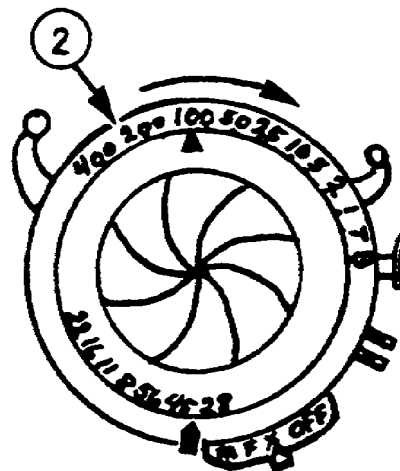

Figure 1-43. Speed Selector Ring.
(b) Rotate the speed selector ring ② , (fig 1-43), until the fiducial mark is opposite the desired shutter speed on the speed scale.